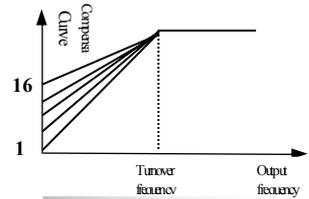

Fig 9-1 Torque Promotion Curve
- There are altogether 16 “beeline torque compensation curves”, which are used to increase the output torque at low frequency. Compensation will be increased with bigger values, as indicated in Fig 9-1.